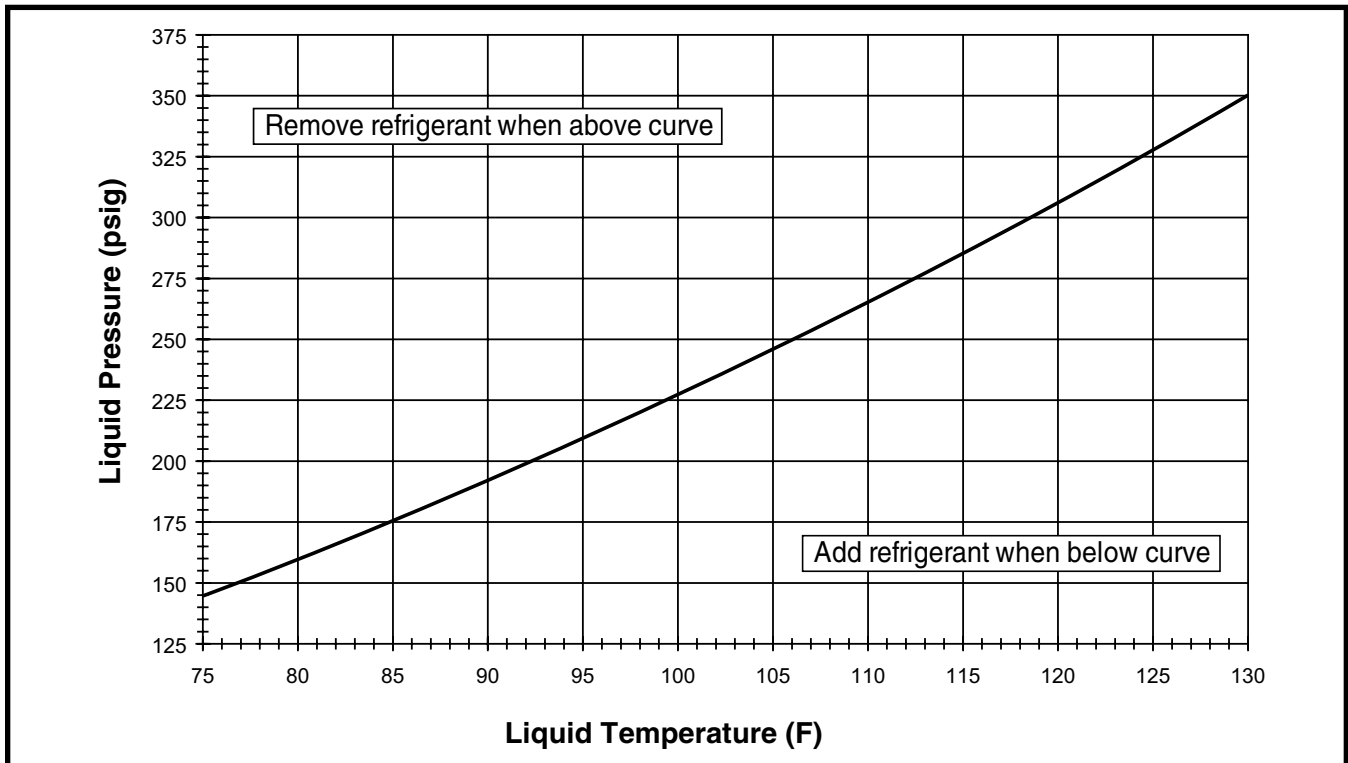

Figure 5. Charging Chart for 1.5 Ton Units
- Refrigerant charging charts are applicable only to matched assemblies of this equipment and listed airflows for the indoor coil. Refer to Figures 5 - 11 (pages 10 - 13) and Tables 4 - 10 (pages 14 - 17) for correct system charging.